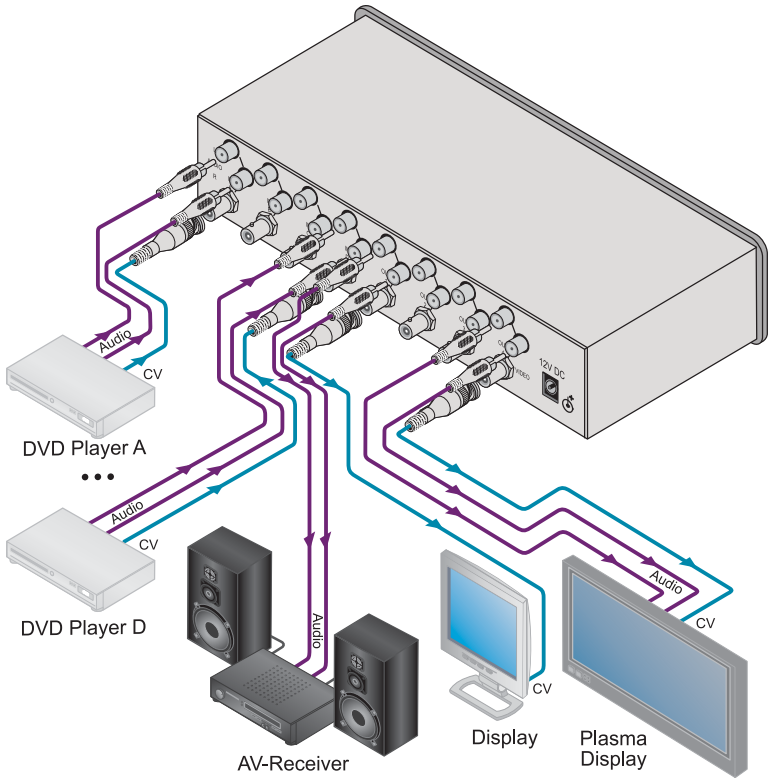

Figure 2: VS-6EIII 4x4 Video Audio Matrix Switcher Connections
To connect1 the **VS-6EIII 4x4 Video Audio Matrix Switcher**, as illustrated in the example in Figure 2, do the following2:
3. Connect the 12V DC power adapter to the power socket and connect the adapter to the mains electricity (not shown in Figure 2).